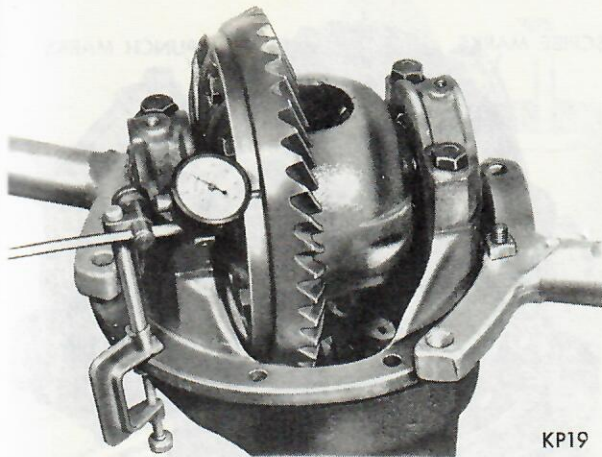

Fig. 15 Checking for Runout and Zero End Play
(1) Mount carrier in Stand DD-1014 and attach dial indicator Tool C-3339 to differential carrier flange in a position so pointer of indicator squarely contacts back face of ring gear (Fig. 15). With